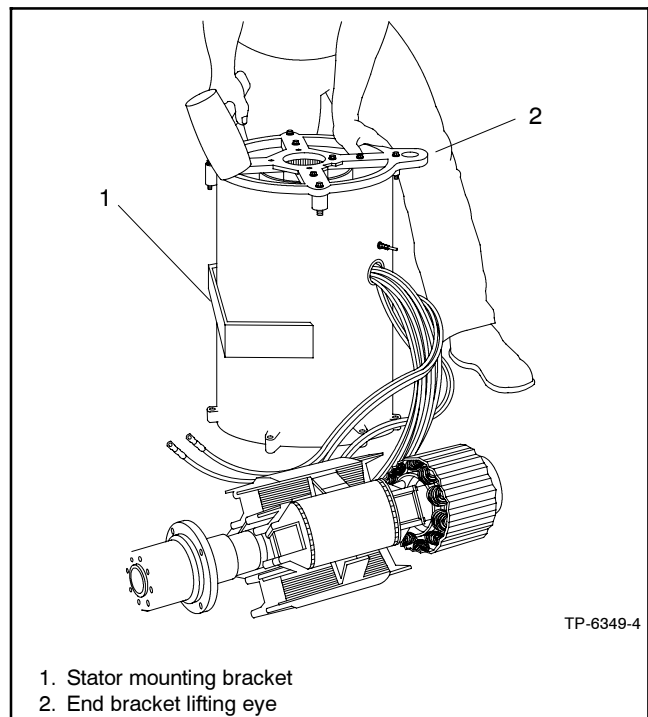

Figure 4-11 Mounting End Bracket on Stator
3. Position the end bracket on the stator assembly and use bolts to align the holes. Use a rubber mallet to mount the end bracket flush with the stator assembly. See Figure 4-11.